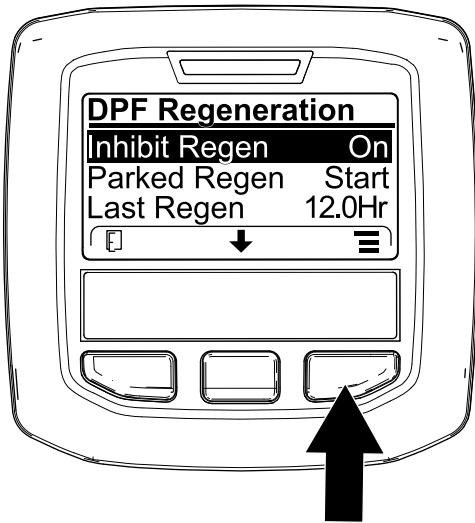
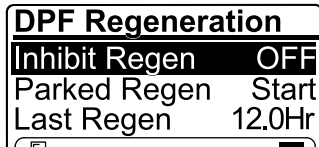

Figure 65
Figure 66
1. Access the DPF Regeneration menu, press the center button to scroll down to the INHIBIT REGEN option, and press the right button to select the Inhibit Regen entry (Figure 65).
- Press the right button to change the inhibit regeneration setting from On to Off (Figure 65) or from Off to On (Figure 66).